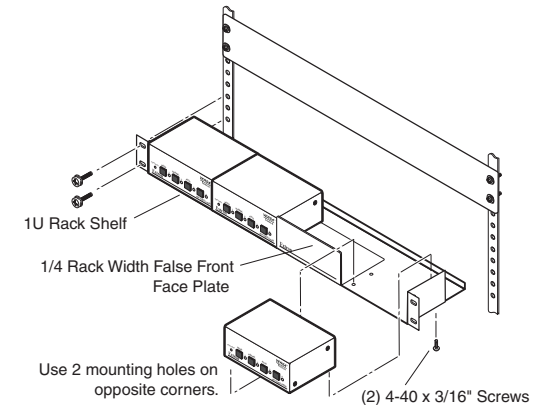

Figure 2-1 — MSW mounted on a VersaTools rack shelf
- RSF 123 1U 3.5" Versatools® Rack Shelf Kit (part #60-190-20) (figure 2-1)